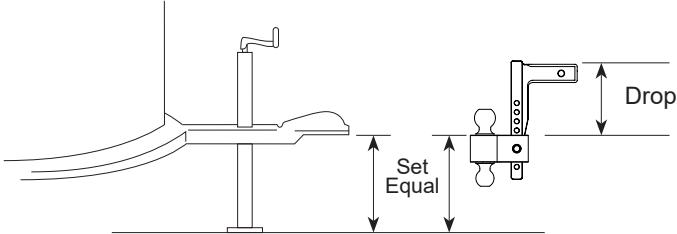

Figure 2
4. Measure from the ground to the bottom of the coupler on the trailer, then pin the ball holder into place on the drop bar at that height, with the correctly sized hitch ball for your trailer coupler facing up. See **Figure 2**. You may need to invert the drop bar and use it in the rise position to reach the correct ball height for your particular trailer.
*Figure 2: Top of ball holder height should initially be set equal to the bottom of the coupler socket height with the trailer parallel to the ground, then **adjusted upward** to compensate for the distance it drops when the tongue weight is being carried.*